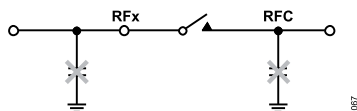

Figure 69. Avoid Large Capacitor Directly Connected to the Switch
- ▶ Avoid connecting capacitive terminations directly to the switch, as shown in Figure 69. A shunt capacitor can store a charge that can potentially lead to hot switching events when the switch opens or closes, affecting the lifetime of the switch.